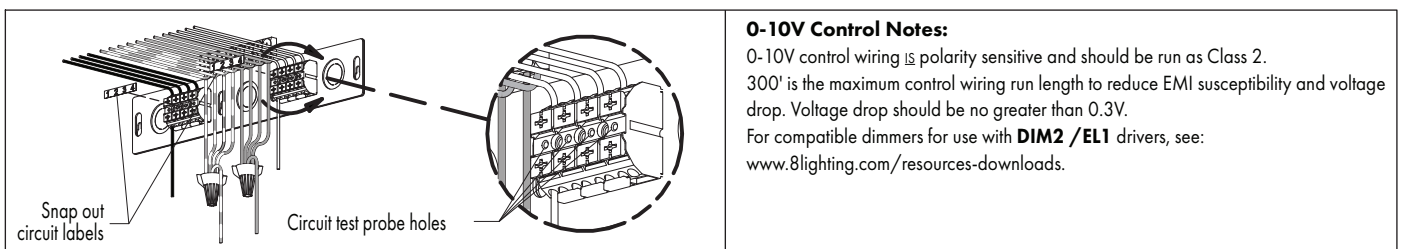

FIG 6.4 Accessing Circuit Probe Holes
3. Check circuit continuity using holes in terminal blocks - FIG 6.4.
3. Check circuit continuity using holes in terminal blocks – FIG 6.4.